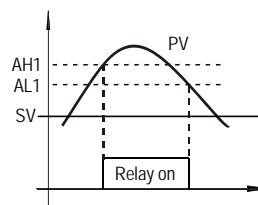
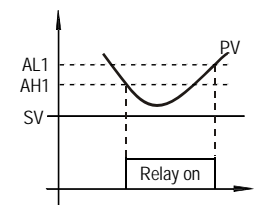

Figure 6. Absolute high alarm
Figure 7. Absolute low alarm
**Note 12.** Alarm setting. When the SSR is used as the control output, the J1 relay can be used as an alarm (when outy is set to 0, 2 or 3). The alarm is controlled by parameters AH1 and AL1. AH1 is the temperature to turn the relay on; AL1 is the temperature to turn the relay off. When AH1 > AL1, the alarm is set for absolute high alarm as shown in Figure 6 below. When AH1 < AL1, the alarm is set for absolute low alarm as shown in Figure 7 below. When AH1=AL1, the alarm is deactivated.